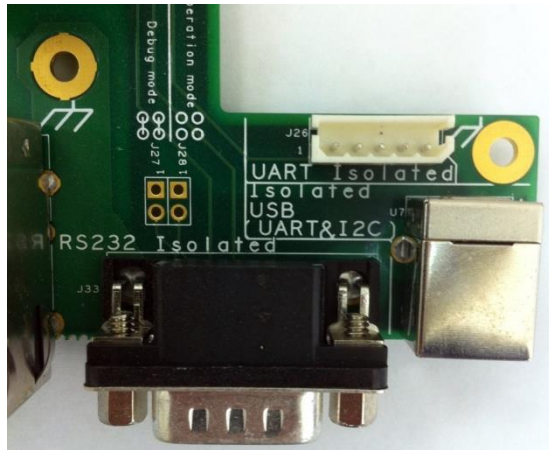

Figure 15: Isolated UART Interface
8. Isolated UART Interface (see Figure 15)